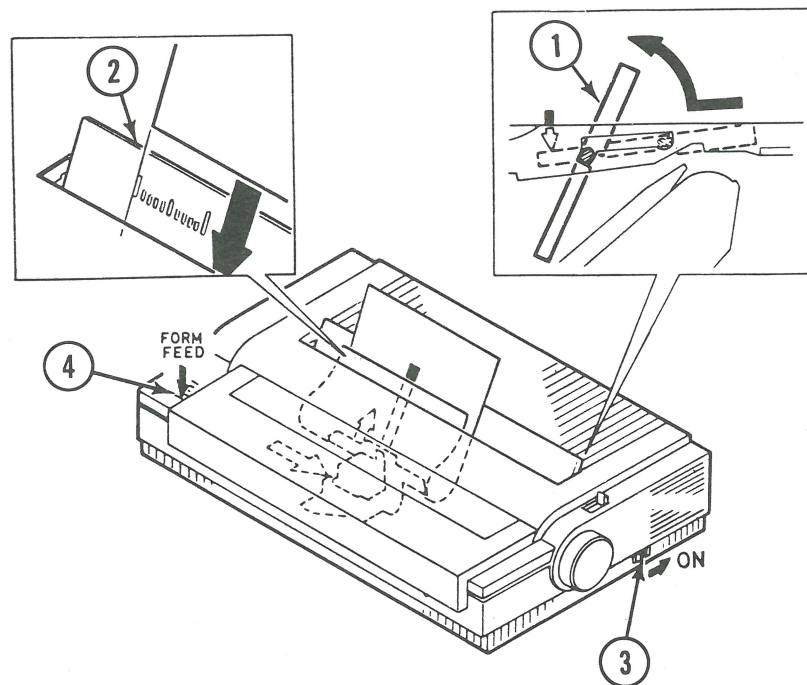

FIGURE 5
8. Lift up and pull forward on the cut sheet guide (Figure 5, #1) until it stops.
9. Insert a sheet of paper into the printer (Figure 5, #2) in front of the cut sheet guide, aligning it with the mark on the cut sheet guide. Slide the paper into the printer until it stops.
10. Turn on the printer (Figure 5, #3).
11. Press the form feed button on the printer control panel (Figure 5, #4). The printer will automatically load the paper to the print start position.